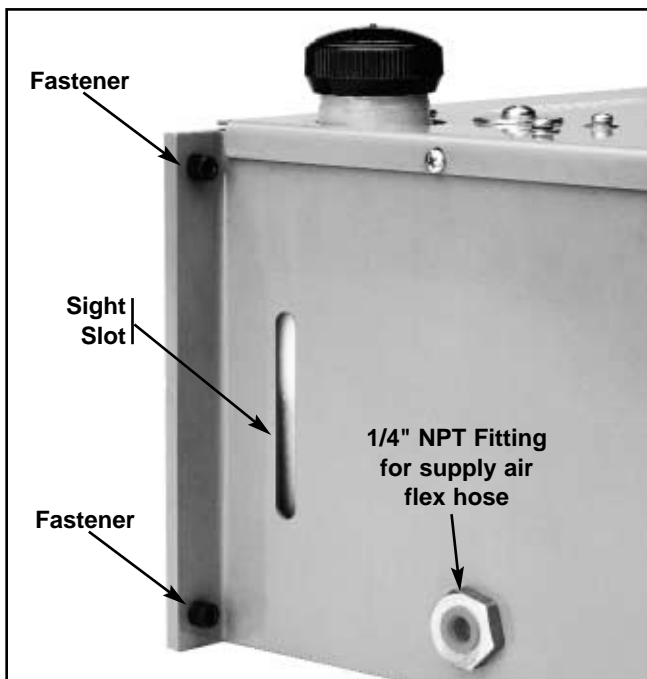

Figure 3 - Anti-spatter reservoir sight slot and air supply inlet fitting.
- Filling the Anti-Spatter Reservoir Remove the cap and fill the reservoir with AP-356 Anti-Spatter compound until full. Visually check the fluid level through the liquid-level sight slot in the side of the housing, as shown in *Figure 3*. Replace the cap.